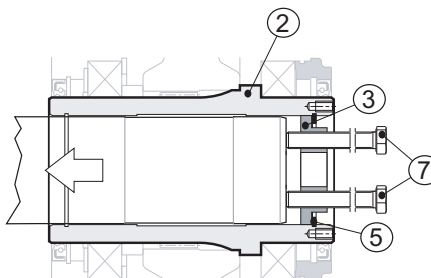

Fig. 14
Insert 2 bolts (pos. 7) into the two threaded holes on the plate (pos. 3) (and screw them until they touch the machine shaft (pos. 1). Now give them alternately one full turn each (see Fig. 14 (p. 25)).